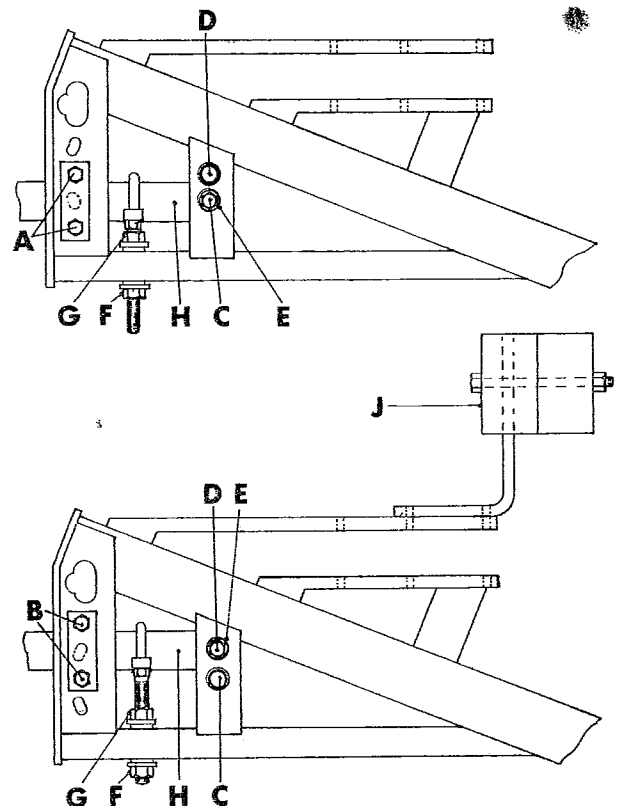

Fig. 6
11. SIDESHIFT (Fig. 6)
Refer to upper illustration (Fig. 6).
Refer to lower illustration (Fig. 6).
16. FRONT FURROW ADJUSTMENT (Fig. 6)
17. PLOUGH BALANCE (Fig. 6)